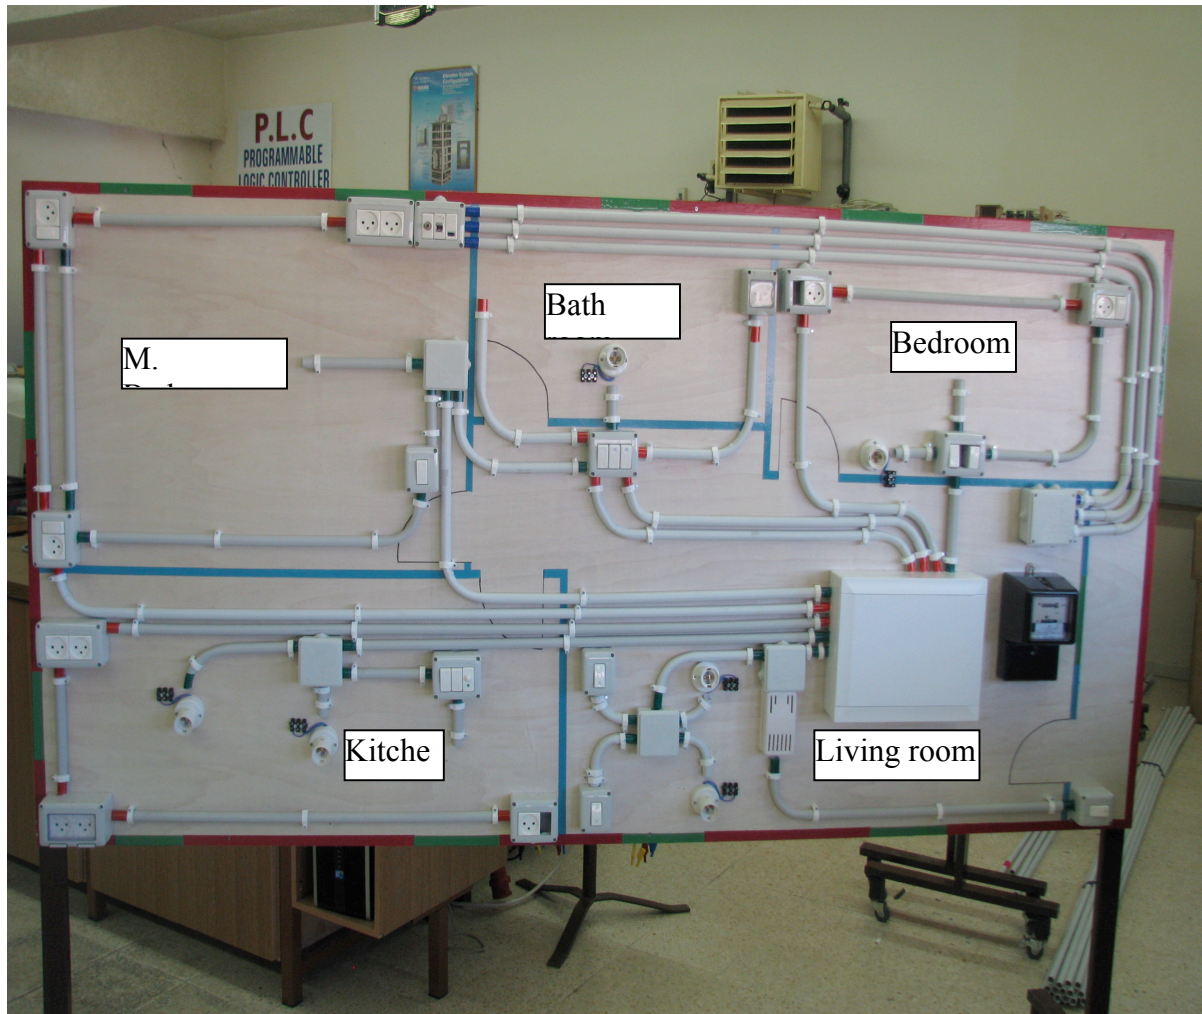
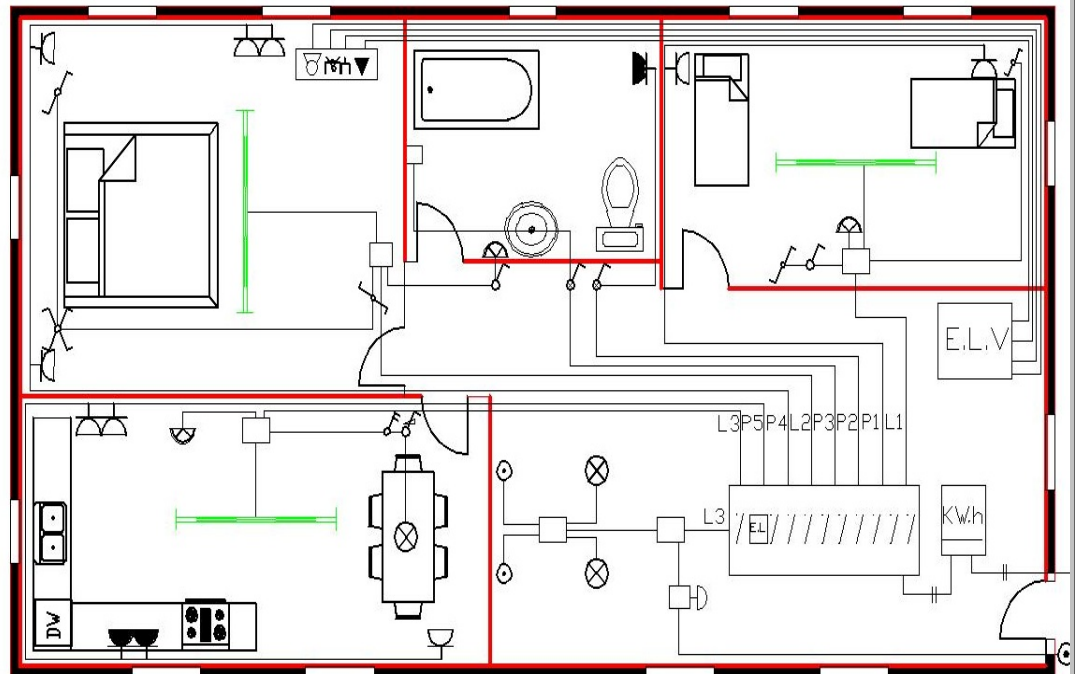

Figure 8.1: A photo of conduits, installations, and wiring in a symbolic flat consisting of a living room, a bedroom, a master bedroom, a bathroom and a kitchen
Figure 8.2: The overall electrical plan of the symbolic flat
In this part, the kWh meter, the Distribution Board (DB), main MCB and EL (RCD), and MCBs in a symbolic flat, shown in Figure 8.1, will be assembled. Also, extra low voltage components will be installed. The conduits marked with green paint are designed for lighting wiring, conduits marked with red paint are designed for power wiring, and conduits marked with blue paint are designed for Extra low voltage wiring. The overall electrical plan is shown in Figure 8.2.